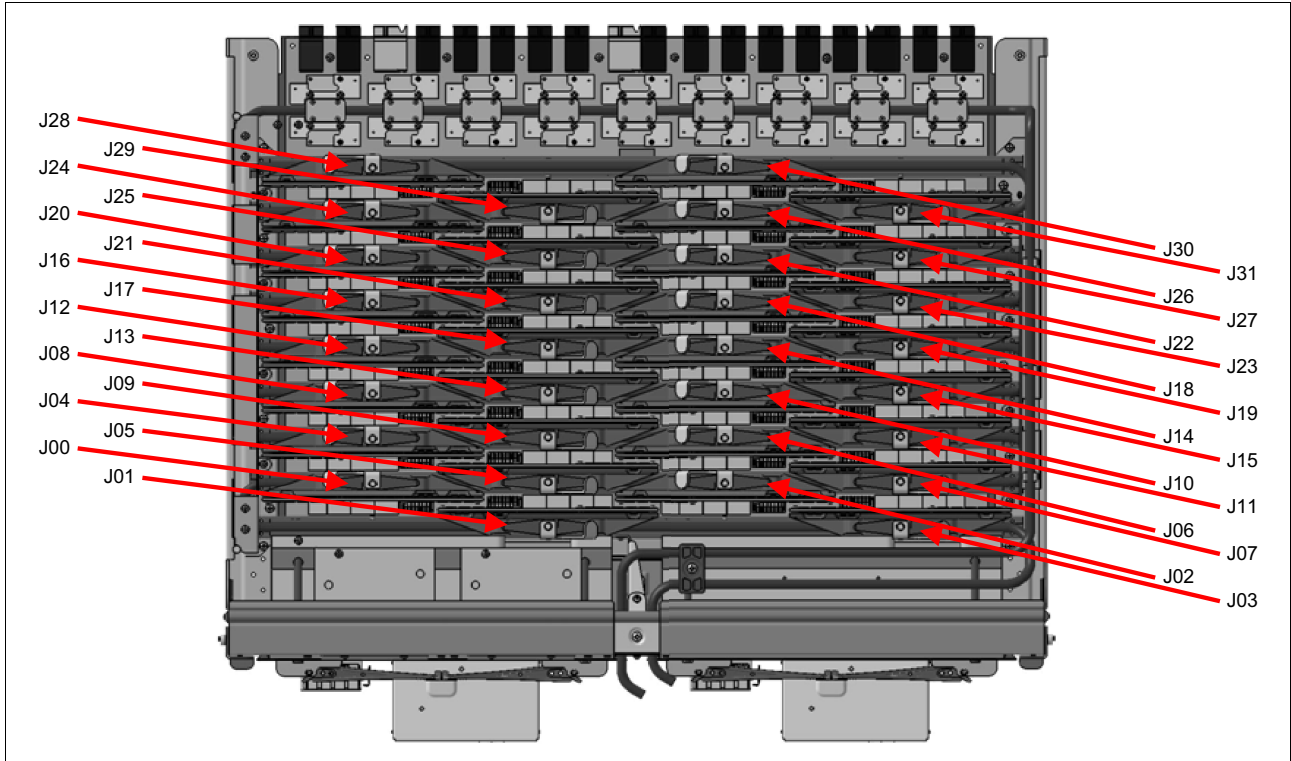

Figure 4-7 Compute card naming locations
2. See Figure 4-7 for the compute card locations. Verify the location of the compute card because the node board is not labeled with location codes.